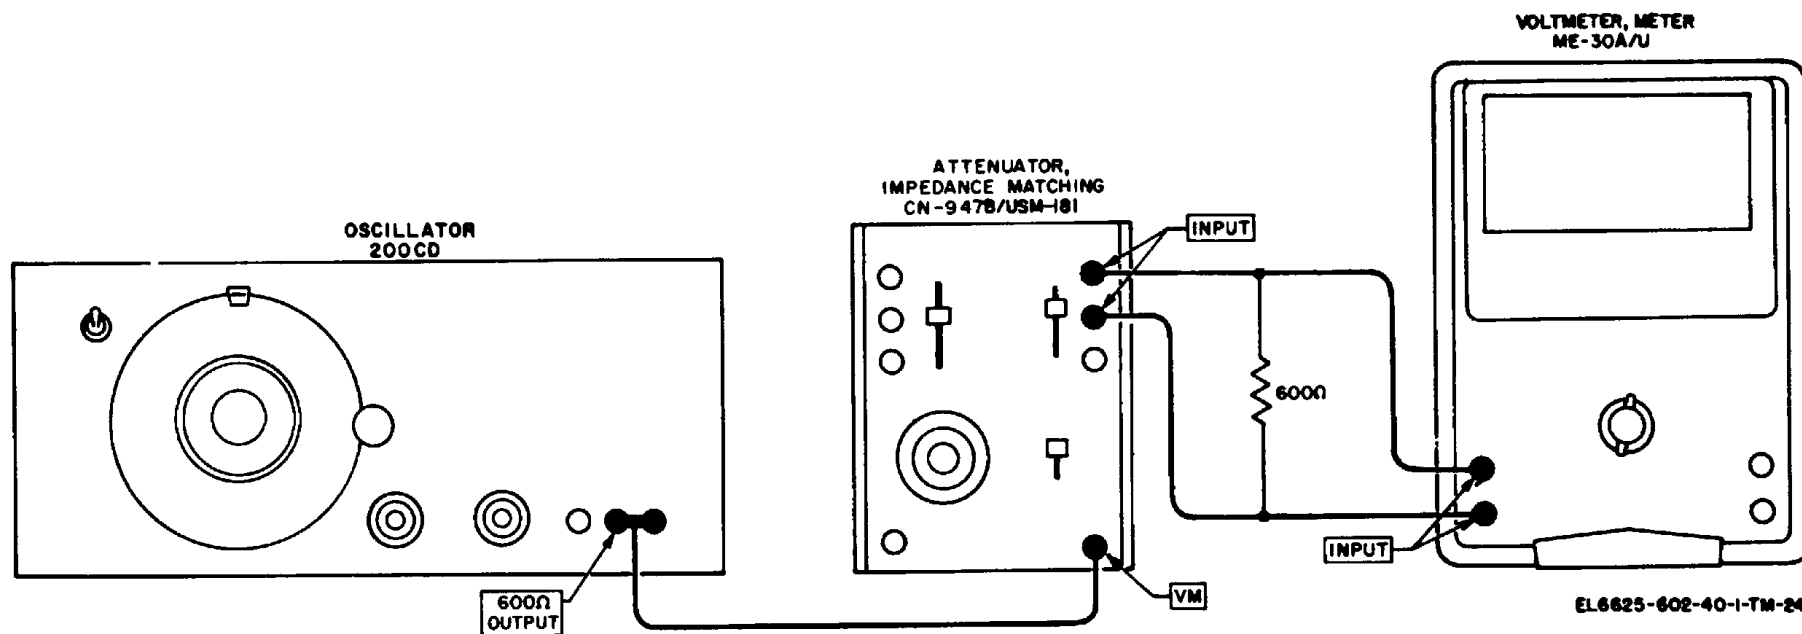

Figure 5-6. Attenuator, Impedance Matching CN-947B/USM-181 input insertion loss test.
b. *Test Connections and Conditions.* Connect the equipment as shown in figure 5-6.